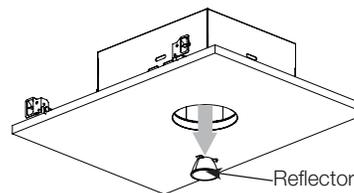

Figure 3
4. Field replace light module (**Figure 3**).
- a. Match LED module number on module grab plate (**Figure 3**) to housing label, located inside the fixture housing.